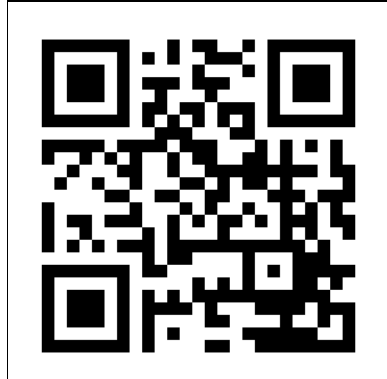

Figure 15
1. Open the Eurom Smart App manual with the QR code (Figure 15) or go to [www.eurom.nl/nl/manuals](http://www.eurom.nl/nl/manuals).